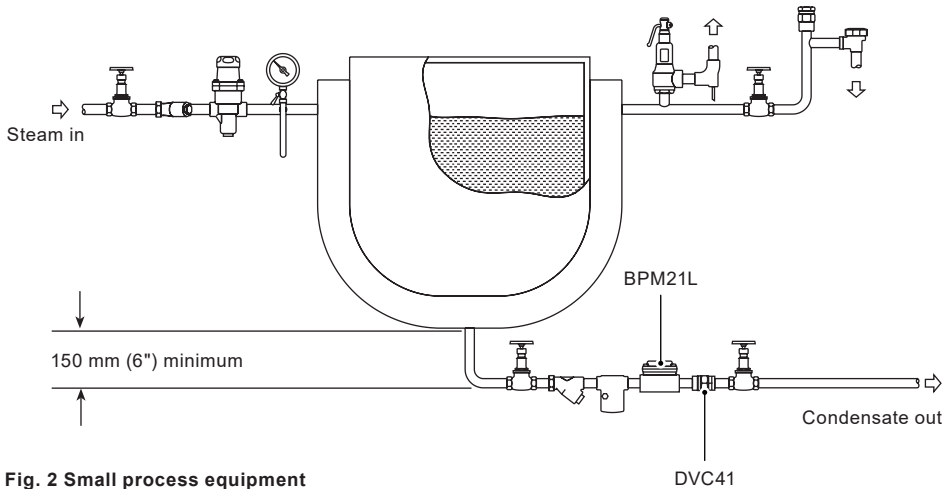

Fig. 2 Small process equipment
- 3.4** The trap is designed for installation in any position, horizontal or vertical, preferably with a drop leg immediately preceding the trap - typically 150 mm (6") see Figure 2. **Caution:** If no drop leg is allowed then it may be possible (under low load conditions) for steam to flow over the condensate in the bottom of the pipe and reach the trap.
- 3.5** Unless the BPM21LCV is used, always fit a non-return (check) valve downstream of any steam traps which discharge into condensate return lines where backpressure is experienced. This is most commonly caused by a rising condensate line. The check valve will prevent the steam space flooding when the inlet pressure is reduced or the steam is shut off. Use a suitable valve such as the Spirax Sarco DCV41, see Figure 2.